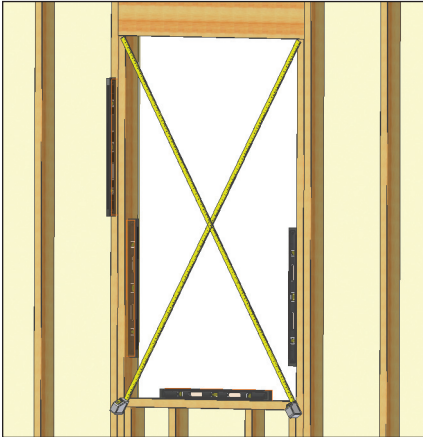

FIG. 4
- B) Verify the rough opening is plumb, level, and square. (Fig. 4)
- C) Take diagonal measurements to check for square. (Fig. 4)